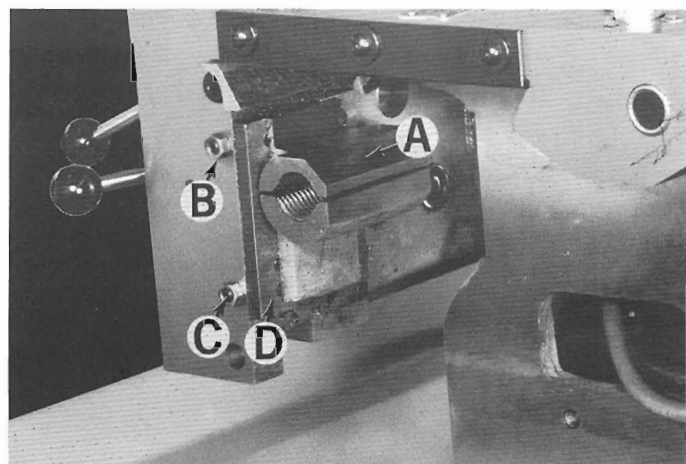
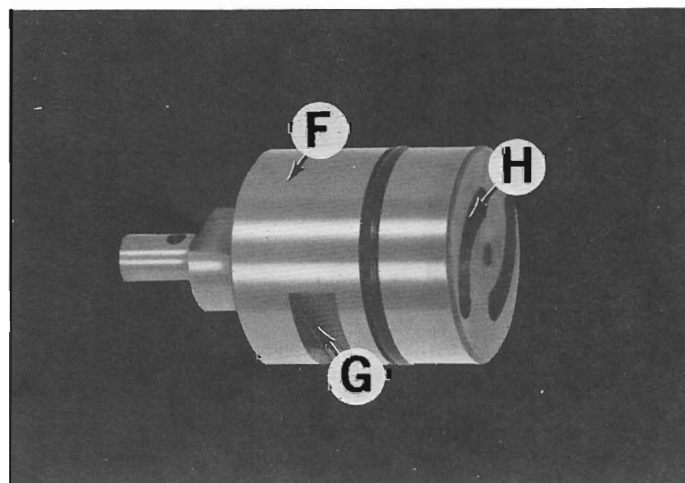

Figure 138 — Lead Screw Nut
Figure 141 — Cam for Lead Screw Nut
4. Hand feed carriage to right until travel stops. Pull carriage by hand past end of bed until lead screw nut "A", Figure 138, clears.
6. Remove two dot plug covers "J", Figure 129. Remove two screws under covers "J". **HOLD GIB "D", FIGURE 138,** to prevent it from dropping from position.
1. Replace cam "F", Figure 140, with cam slots "G", Figure 141, in line with screw "J", Figure 140.
4. Replace both halves of lead screw nut, Figure 139, placing lead screw nut pins in cam slots "H", Figure 141. Replace gib "D", Figure 138. Replace and tighten securely two screws. Replace covers "J", Figure 129.
6. Alternately tighten two screws "C", Figure 138, until pressure is required to close half nut. Tighten securely two lock nuts "B".